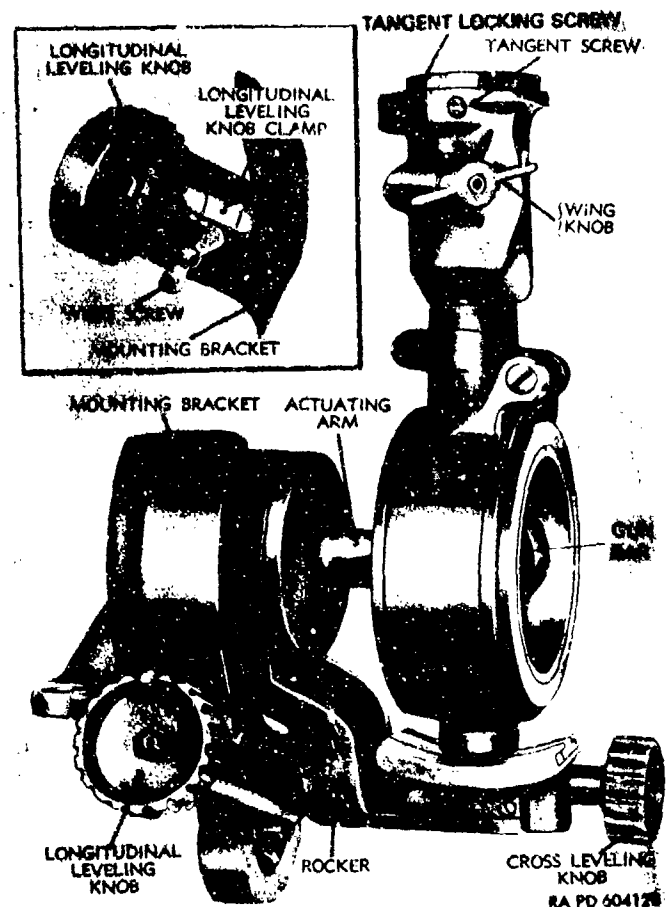

Figure 3-15. Telescope mount M21A1.
a. The telescope mount M21A1 (fig 3-15) is bracketed to the left side of the cradle. It is used in conjunction with the panoramic telescope and provides a means for laying the weapon in direction.